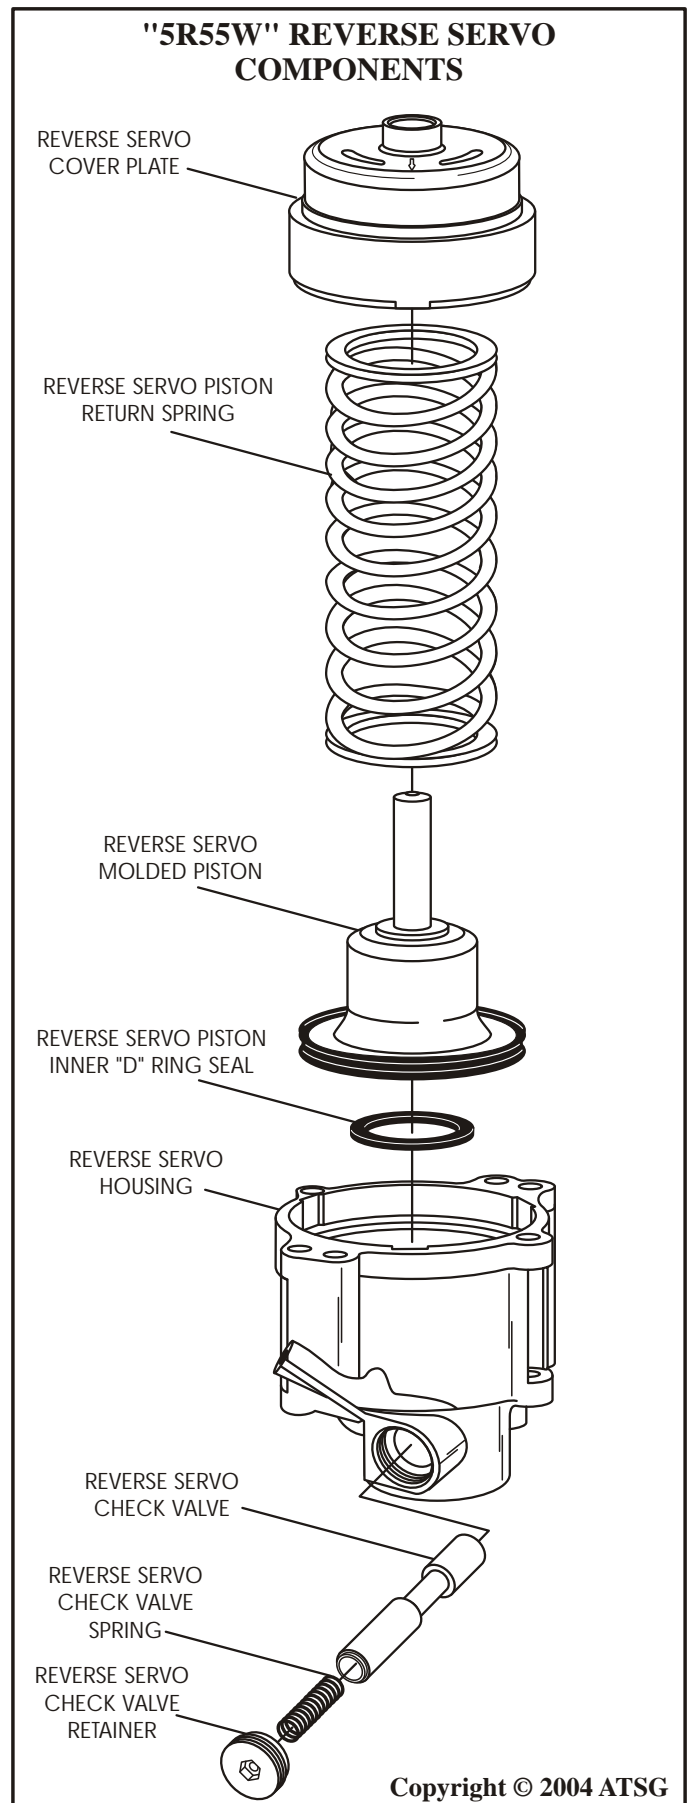

Figure 113
1. Disassemble the reverse servo assembly using Figure 113 as a guide.
**Note: The reverse servo piston has a molded seal, as shown in Figure 113. Replace the piston assembly as necessary.**
5. Remove and discard the reverse servo piston inner "D" ring seal from the servo housing, as shown in Figure 113.
6. Remove and inspect the reverse servo check valve and spring, as shown in Figure 113.